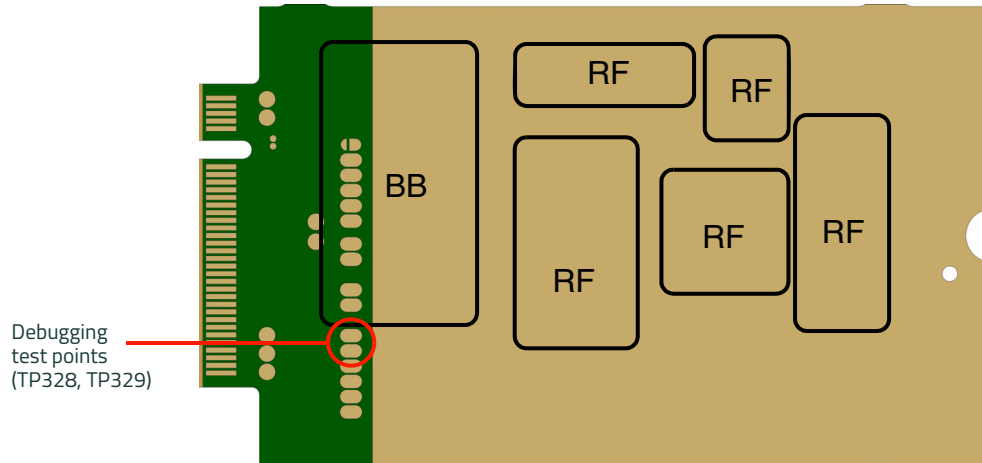
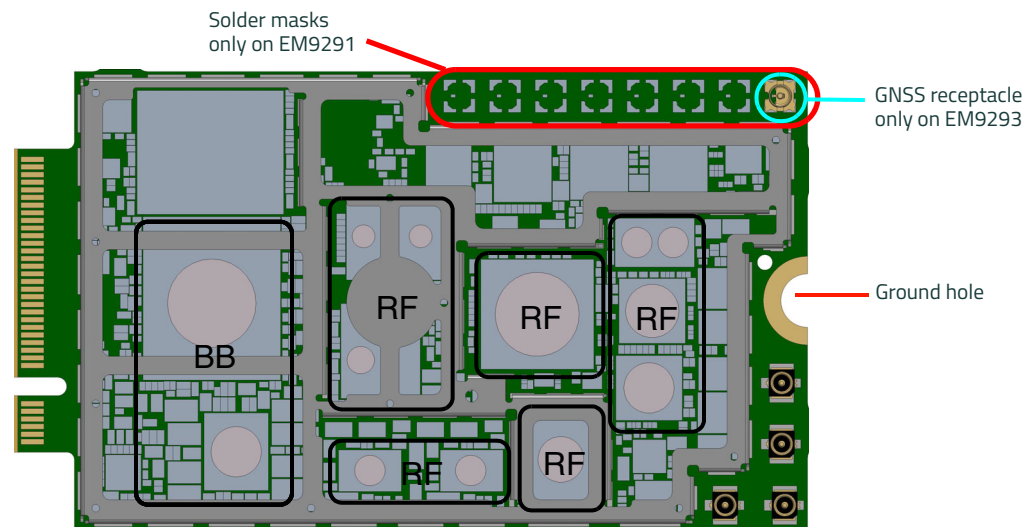

Figure 6-6: Regions requiring thermal dissipation (Bottom view)
Figure 6-7: Regions requiring thermal dissipation (Top View)
Sierra Wireless recommends that the host device dissipate heat from the bottom surface of the module PCB and, if desired, from the top surface of the module shield. Figure 6-6 and Figure 6-7 display the locations of significant heat sources (BB — baseband components, RF — RF components) that require heat dissipation.
Note — Sierra Wireless recommends that the debugging test points (TP328 and TP329, see Figure 6-6) remain accessible for Sierra Wireless to assist in system debugging. Make sure the test points are not shorted to anything.
- Monitor temperature at all shield locations. Attach thermocouples to the areas indicated in Figure 6-7 on page 72 (RF, Baseband).